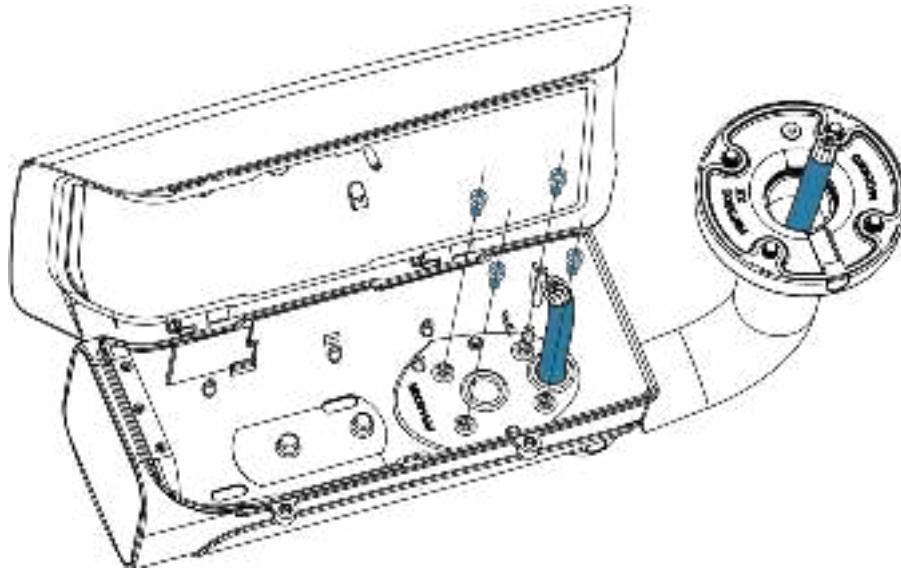

Figure 3-3
Step 2: Secure the bracket on the camera. See Figure 3-3.